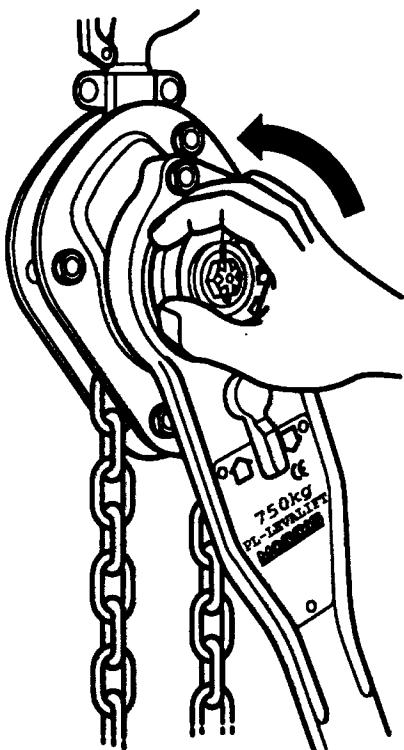

Fig. 3
- Pull the chain gently through the hoist in either direction. If neither operation appears to function, a load greater than 3% of SWL may have previously been applied, or the load side chain may have been jerked excessively. These events automatically apply the brake. To release the brake, remove the load and turn the fingerwheel anti-clockwise (see fig 3).